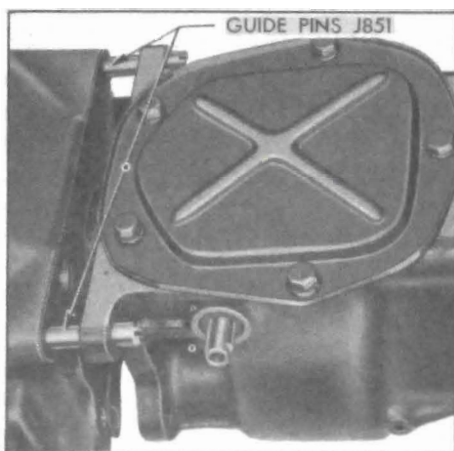

Figure 4-26—Transmission Guide Pins J 851
7. Remove the two top transmission to flywheel housing bolts and install Guide Pins J 851 to support transmission. See figure 4-26. Remove lower bolts, then move transmission straight back and lower to floor. **CAUTION:** *If guide pins are not used and weight of transmission is allowed to rest on main drive gear in clutch driven plate hub, the driven plate will be damaged.*
2. Make certain that front face of transmission case and face of flywheel housing are absolutely clean. Install Guide Pins J 851 in upper bolt holes in housing (fig. 4-26) and install a new transmission gasket. Make certain that spring washer is in place behind clutch release bearing support in housing.